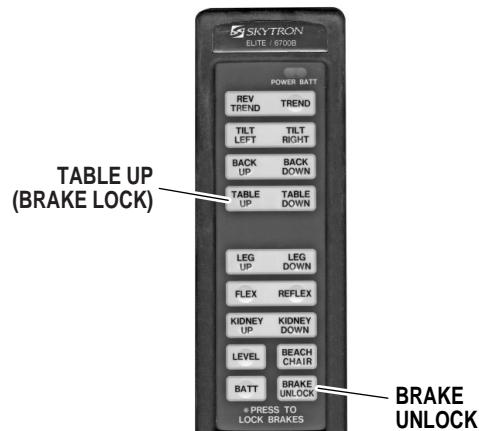

Figure 2-5. Brake System Activation
**a. Floor Lock/Brake System.** To activate the brakes without affecting table positioning, press the TABLE UP button. See figure 2-5. The elevation cylinder will not function until the brakes are completely extended.
Press the BRAKE UNLOCK button on the pendant control to release the four self-leveling brake feet in order to move the table. See figure 2-5. The brake delay circuit automatically retracts the brake system. It takes approximately 7-8 seconds to totally release the system.